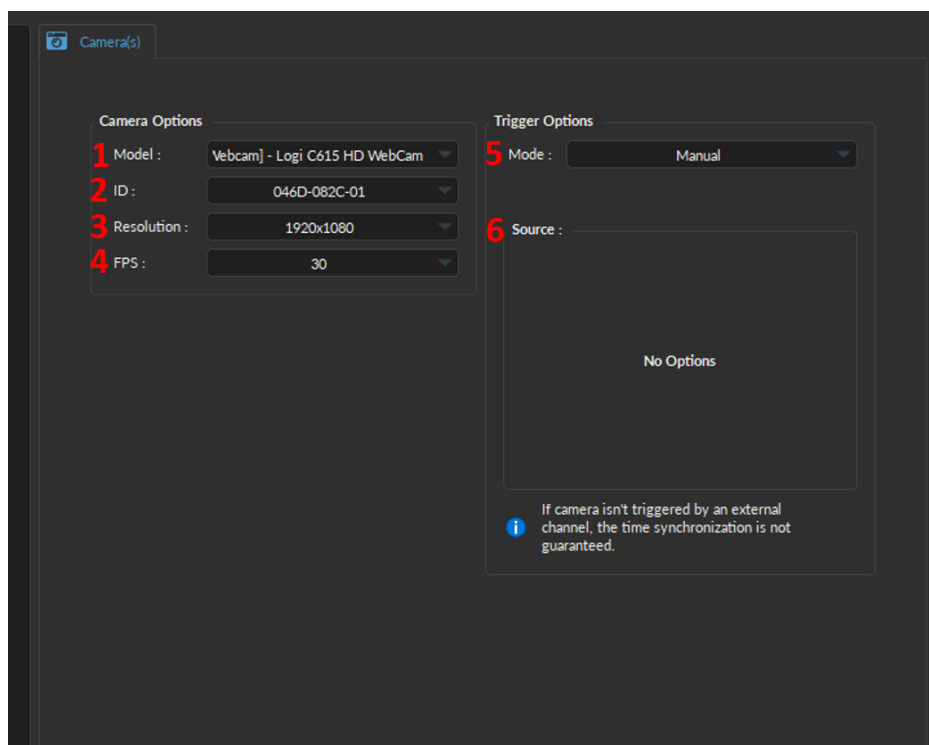

Figure 12.18: Channel(s) configuration window, Camera(s)
1. The **Model** (Fig. 12.18, 1) allows you to select the camera of choice based on the type of camera.
2. **ID** drop-down list (Fig. 12.18, 2) is used to select a camera based on its unique ID. The ID is beneficial when multiple cameras of the same model are required for the experiment.
3. The **Resolution** (Fig. 12.18, 3) is used to set the resolution of the image. The larger the number of pixels used for width x height, the better the resolution. Currently, image size can range between 160x120 to 1920x1080 pixels.
4. The **FPS** (Fig. 12.18, 4) is used to specify the frame rate of the camera (i.e. the number of images displayed per second). FPS can be any value between 5 to 30 for web cameras and up to 60 FPS for the *Doric Behavior Camera* and *CamLoop*.
5. The **Mode** (Fig. 12.18, 5) sets the type of trigger that will control the camera. Depending on the type of camera, at most three modes are available:
6. The **Source** (Fig. 12.18, 6 & Fig. 12.20) is only used for the **External (Preconfigured)** mode, and displays the **Digital I/O** channel with the preconfigured parameters that will be created at the same time as the **Camera Channel** (Fig. 12.20). For a detailed description of each Digital I/O parameter see Section 12.5.1.2. Briefly, key parameters include: